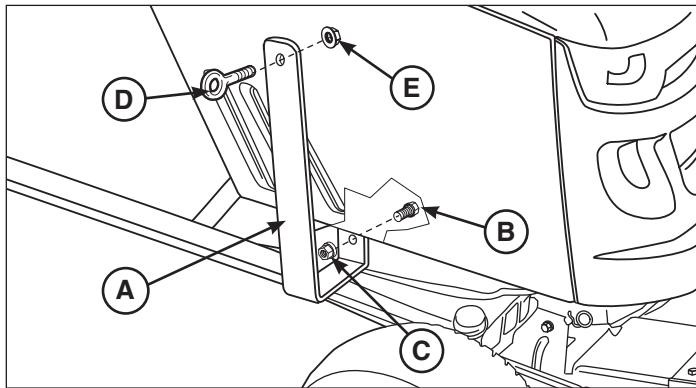

Figure 15
1. On right side of tractor, install the control arm support bracket (**A**, Figure 15) using a 1.00" cap screw (**B**) and flange nut (**C**) to the tractor frame.